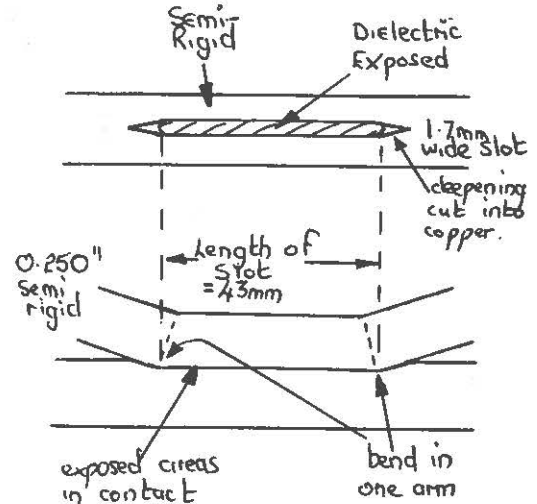

Figure 2
Hold the cable in a vice and file away the outer to form a flat on the cable of the desired length. It should be a quarter wavelength long in the cable dielectric (ptfe) at the highest frequency required. (ϵ_r is 2.1) Fig 2.
2. It is not necessary to connect the cable to the inside of the tube as it passes out of the bottom. A convenient method of mounting, however, is to fit a shorting plate of some description across the bottom with an N-type plug or socket in it. The antenna can be mounted entirely by the N-type connector as shown in figure 2. This method is particularly convenient for mobile use when the N-type can be screwed on to a female back to back bulkhead N-type fixed in the roof. This feed-through in the roof can of course be used for other bands as well. Obviously many other methods of mounting are possible.